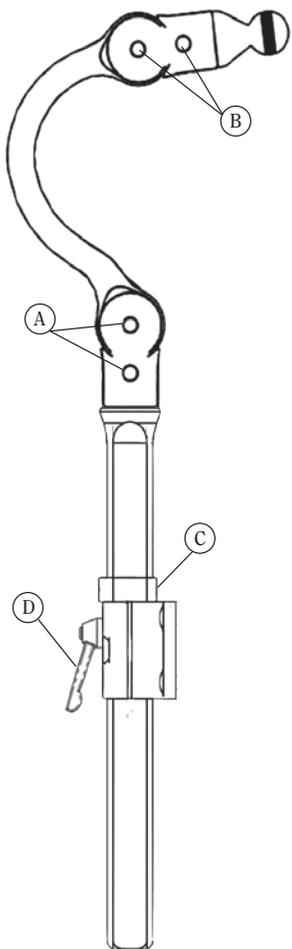

Fig. 1
1. Assemble as shown in Fig. 1.
1. Vertical - Loosen the lever knob (Fig. 1, D) and adjust to the proper height and then lower the stop collar (Fig. 1, C). Vertical rod may be rotated for additional angle adjustment of pad/base plate assembly.
2. Depth and Angle Adjustment - Loosen adjustment screws (Fig. 1, A & B) for depth and angle adjustment. Note angle adjustment shown in Fig.3.